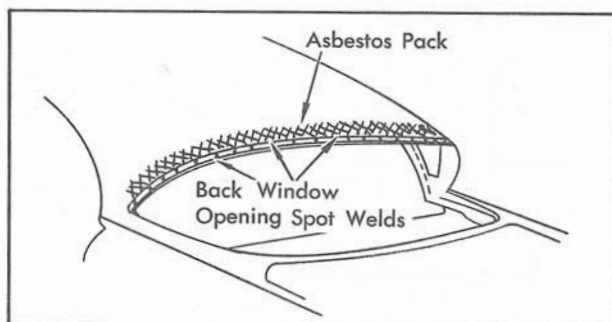

Fig. 17-69 Roof Panel at Back Window
a. Pinch weld flanges of windshield and back window openings, Fig. 17-69 and 70.
6. When the sides are completed, carefully check the alignment of the roof panel at the windshield and back window openings to insure that the edges along the pinchweld flanges are flush. Using wet asbestos, place a pack extending from the front edge of the rabbet section inboard approximately 3". This pack, if properly placed, will eliminate any concentration of heat on the top or the exposed section of the roof panel during the welding operation. Tack welds should be placed at the windshield and back window openings at 6" intervals. Refer to Figs. 17-69 and 17-70 for the proper position of the asbestos pack. As used along the sides of the roof panel, the fusion weld is found to be the most effective in this area.